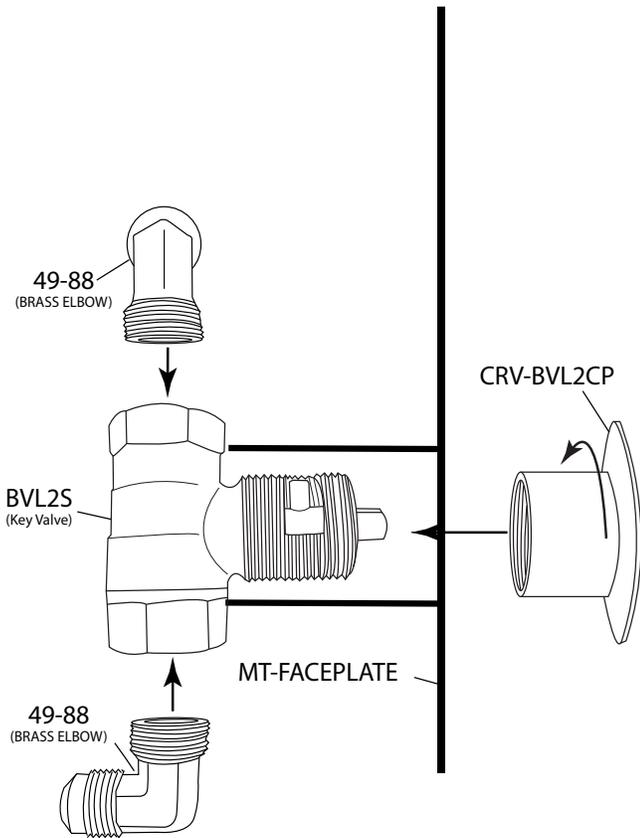

Fig. 5 Assembled MT mounting plate.
The figure drawing below shows the MT mounting plate parts and pieces used for the assembly. This is pre-assembled and ready to install. See Fig. 5. The Key Valve Assembly consists of (1) key valve and flange, (2) 90° elbows and (1) MT stainless steel face plate.